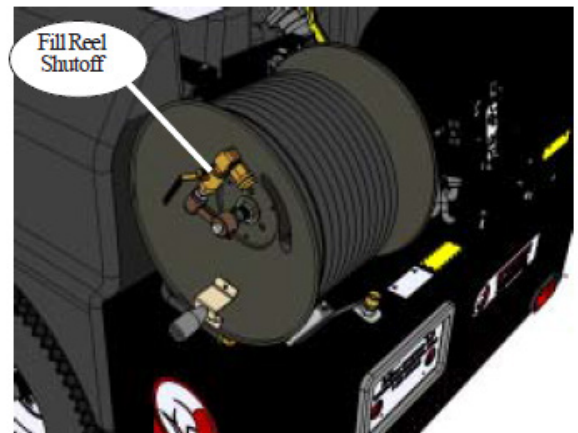

Fig. 20.3
3. Open fill reel valve (Fig. 20.3).
4. Confirm recirculation selector valve is set “Antifreeze Tank” (Fig. 21.1) and fill reel valve is open (Fig. 20.3).
2. Open fill reel valve (Fig. 20.3).